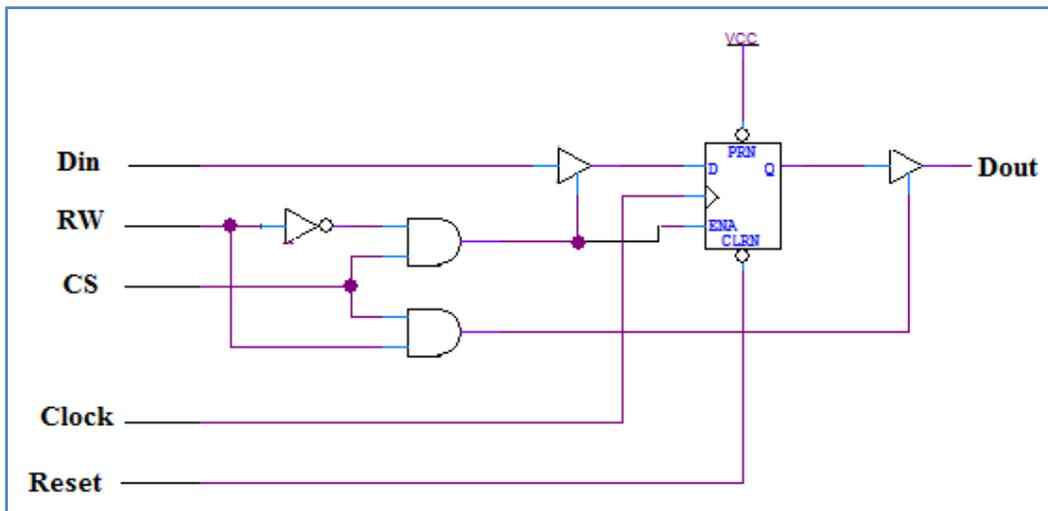

Figure 2. Memory Cell Schematic Diagram
1. Open the file **MemCell.bdf** and build the schematic diagram of the memory cell circuit shown in Figure 2.